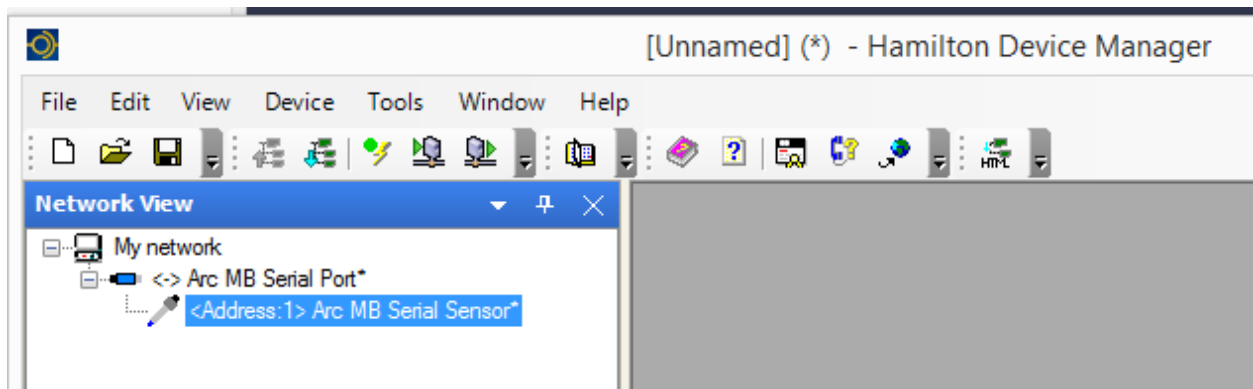

Figure 5-8- After clicking OK in the Add window the HDM adds the LDO sensor.
7. The Hamilton Device Manager window reappears and the sensor now appears in the Network View window under the ARC Serial Port listing, as shown in Figure 5-8. Note that the text for both the converter and the sensor are both in plain (not bold) text to indicate that they are offline.